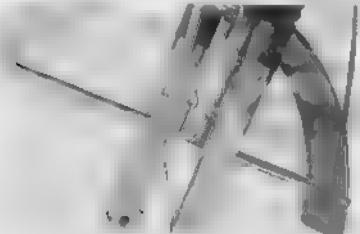

Fig. 4.28 Removing front fender ① 6 mm setting bolts
5. Remove the front fender by removing 2 hex bolts ① from each side. (Fig. 4.28)